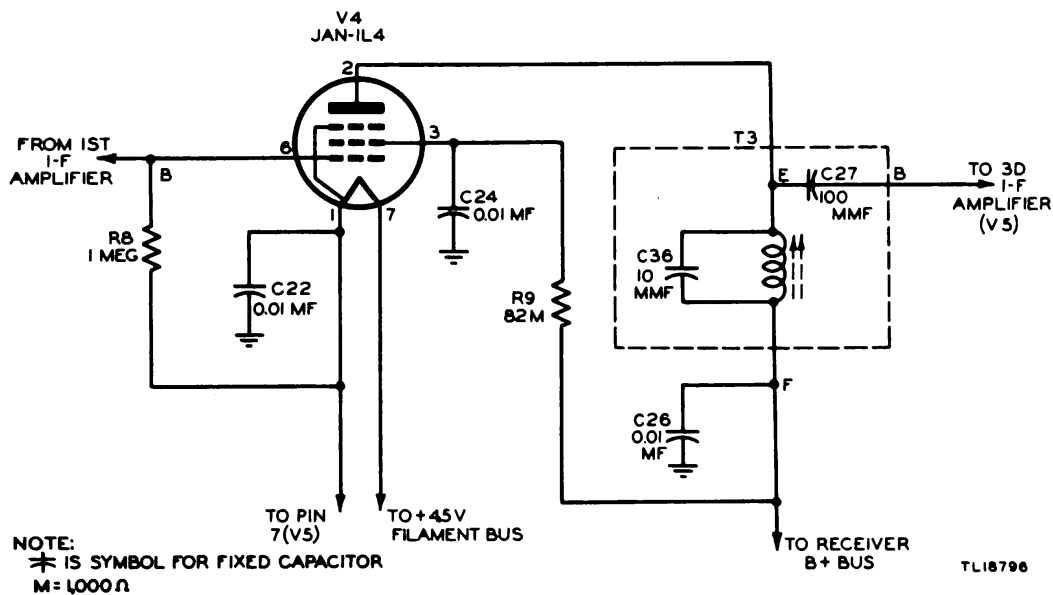
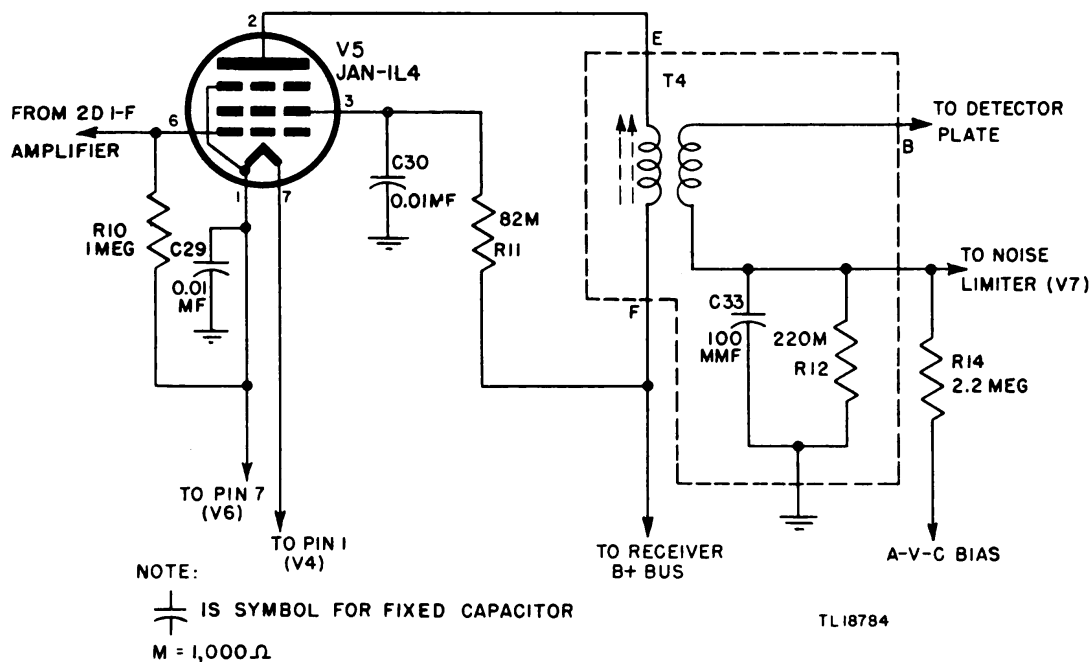

Figure 53. Receiver second i-f amplifier.
Figure 54. Receiver third i-f amplifier.
The second i-f amplifier stage (fig. 53) is similar to the first. Tube V4 (JAN-1L4) is used exactly as in the first stage, the input signal voltage is developed across grid resistor R8 and appears between the grid and filament. The tube operates with zero bias instead of with a-v-c bias as in the case of the first stage, because the grid is returned directly to the filament through resistor R8. The filament is bypassed for the intermediate frequency by capacitor C22. The plate load impedance is tuned in the same manner as in the previous stage and consists of capacitor C36 in parallel with the tunable inductance in T3. The plate is by-
a. The output of the second i-f amplifier is applied to the grid of the third amplifier tube (fig. 54) through capacitor C27 (fig. 53). The grid